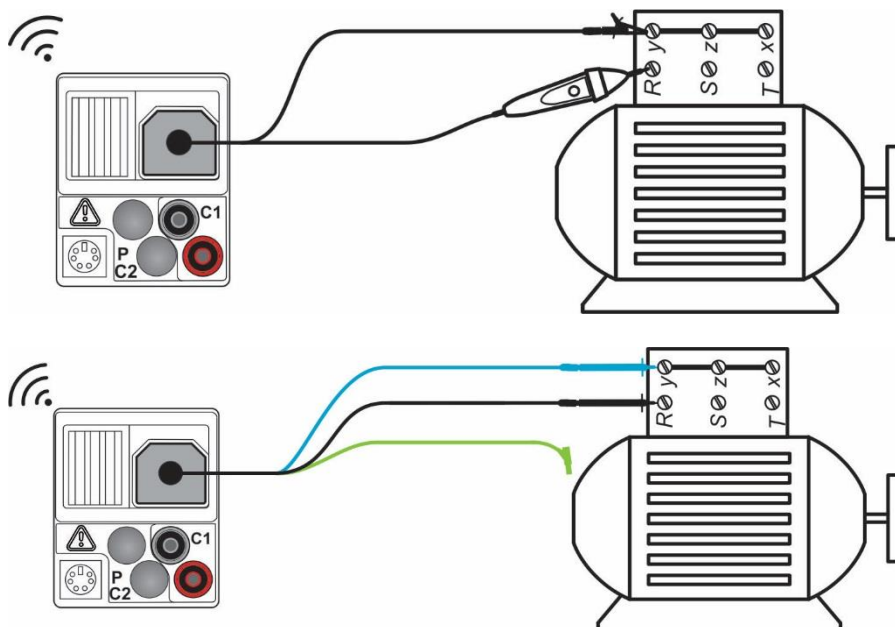

Figure 5.14: Tip commander and 3-wire test lead applications
- ❑ **Connect** test leads to the tested object (see Figure 5.14).